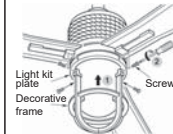

Fig.29
Step 8: Assemble the decorative frame to the light kit plate using the screws removed at step 7. Do not tighten each screw individually. First, install all four screws and then tighten them simultaneously.(Fig.29)